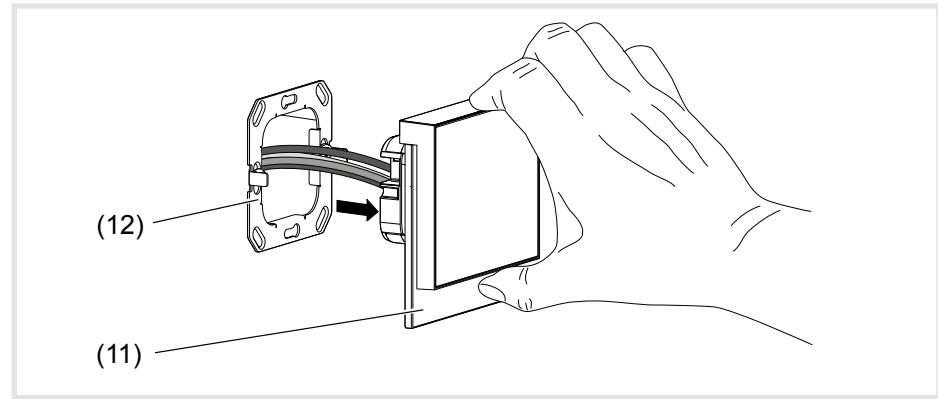

Figure 12: Dismantling
- Pull device out of wall box (Figure 12).
- The holding force of the clamping springs (16) must be overcome.
- Press fixtures for the design frame (15) inwards slightly and remove the design frame.